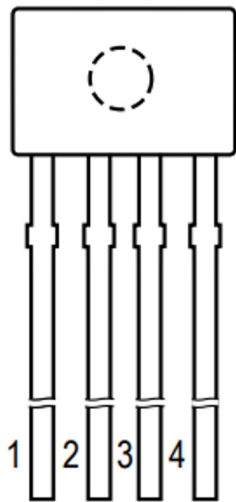

Figure 10: KT Package Pinout Diagram
- Ensure that the ejector pin mark is on the side facing down into the socket as stated in the pinout diagram in the ACS70310 datasheet (see Figure 10).